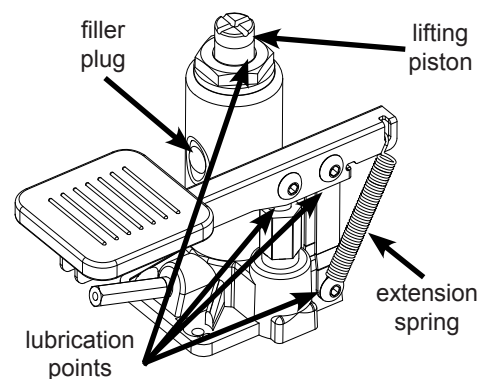

Fig. 7
- Use SAE 30 oil to periodically lubricate the points shown in Fig. 7. To access the lubrication points, remove the three jack cover screws using a Philips head screwdriver (see Fig. 8) and then remove the jack cover.
3. Place a flat head screwdriver on top of the jack lifting piston (see Fig 7) and push the piston down as far as possible. Remove the jack by tilting the top forward and sliding the hexagonal shaft back out of the hole in the mobile base frame.
4. Once the jack is removed, place it in an upright position and remove the extension spring. Completely depress the foot pedal. Remove the rubber filler plug shown in Fig. 7 by pulling it out with your fingers or prying it out with a flat head screwdriver. Add hydraulic jack oil so that the oil level is just to the bottom of the filler hole. Use only hydraulic jack oil. Replace the filler plug and extension spring and reinstall the jack by reversing the steps set forth above.